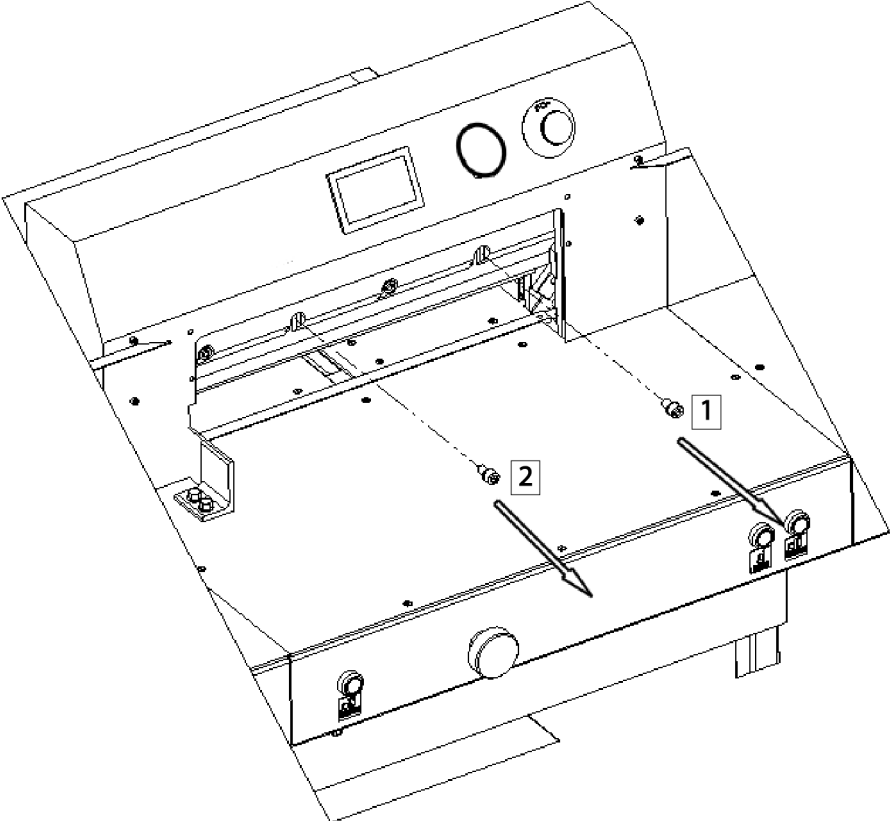
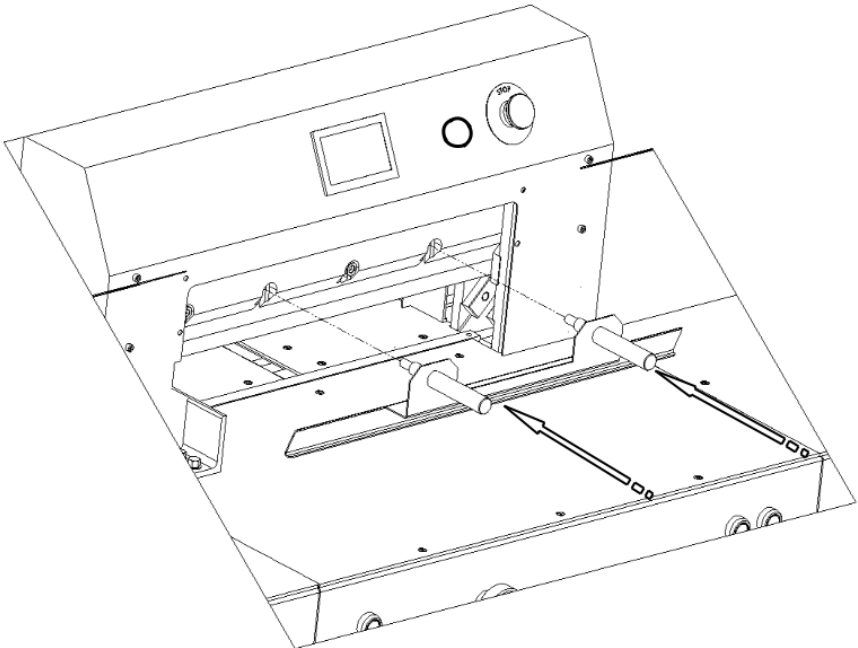

Figure 23
Figure 24
- 8.1.1.10 Unscrew and remove the fastening screws 1 and 2 (Fig. 23).
- 8.1.1.11 In the place of screws 1 and 2 removed (fig.23), screw in the transport handle 1 (fig.24), so that it secures the knife to the cutter bar.